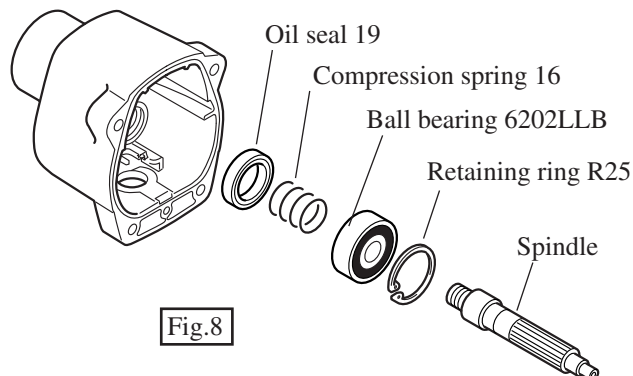

Fig.8
(1) Assemble oil seal 19, compression spring 16, ball bearing 6202LLB, retaining ring R25 and spindle to gear housing as illustrated in Fig.8.